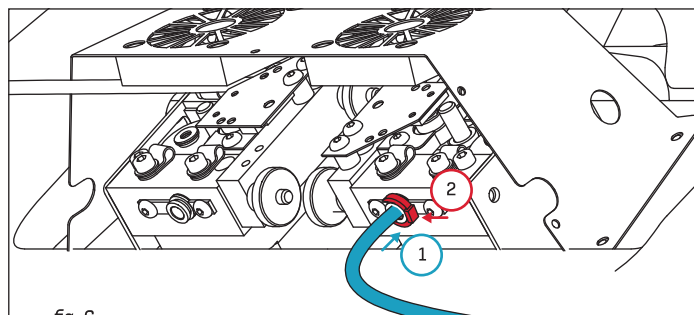

fig. 6
7. Plug in the bowden tubes to the T0 and T1 extruders (fig. 6). To do that:
- plug in bowden tube into the nipple (fig. 6, step 1). Make sure that bowden tube is pushed to the end (about 2 cm, until resistance is felt),
- put the collet clip on (fig. 6, step 2).